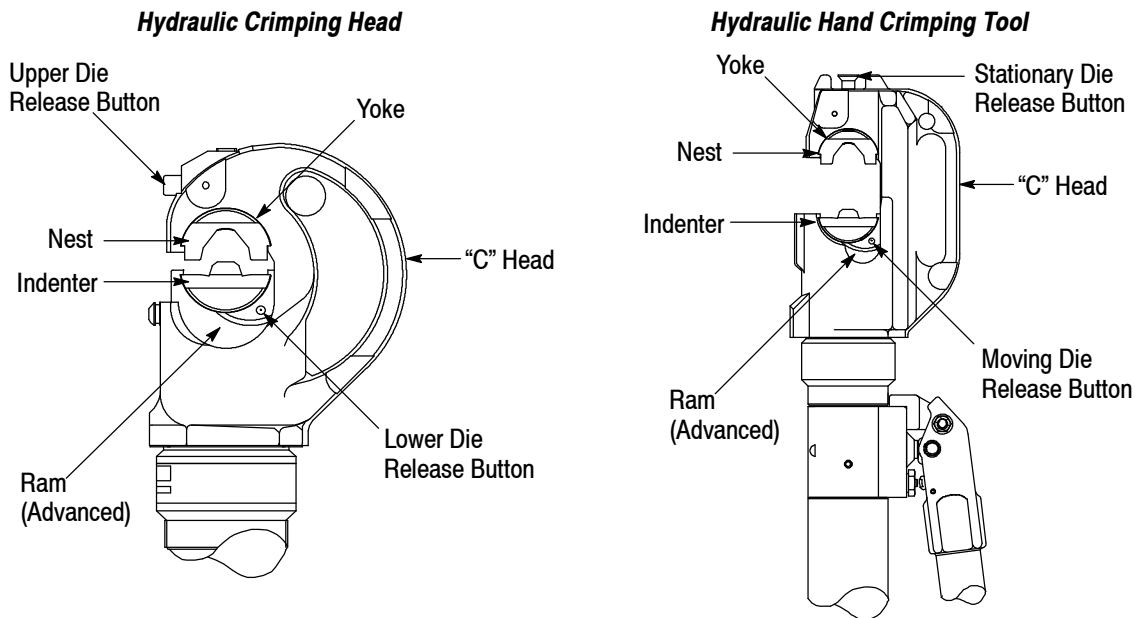

Figure 2
1. Depress the upper die release button (head) or stationary die release button (tool) located on the "C"-head. See Figure 2.
2. Slide the nest into place in the "C"-head. See Figure 2.
5. Slide the indenter into position in the ram. See Figure 2.
1. Depress the upper die release button (head) or stationary die release button (tool) located on the "C"-head, and slide the nest out. See Figure 2.